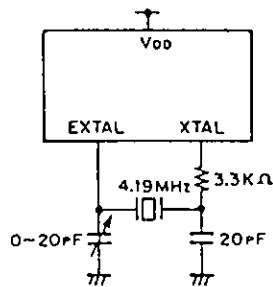

Fig. 12 Frequency adjustment circuit
Fig. 12 shows an example of a circuit which can accurately adjust the frequency. Used here a crystal with 12pF equivalent (CL).